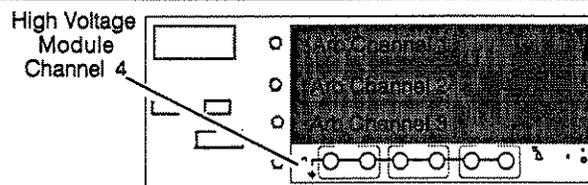

Figure G-1. High Voltage Module Location
2. Remove the cover plate or Arb Channel board from Channel 4; see figure G-1.